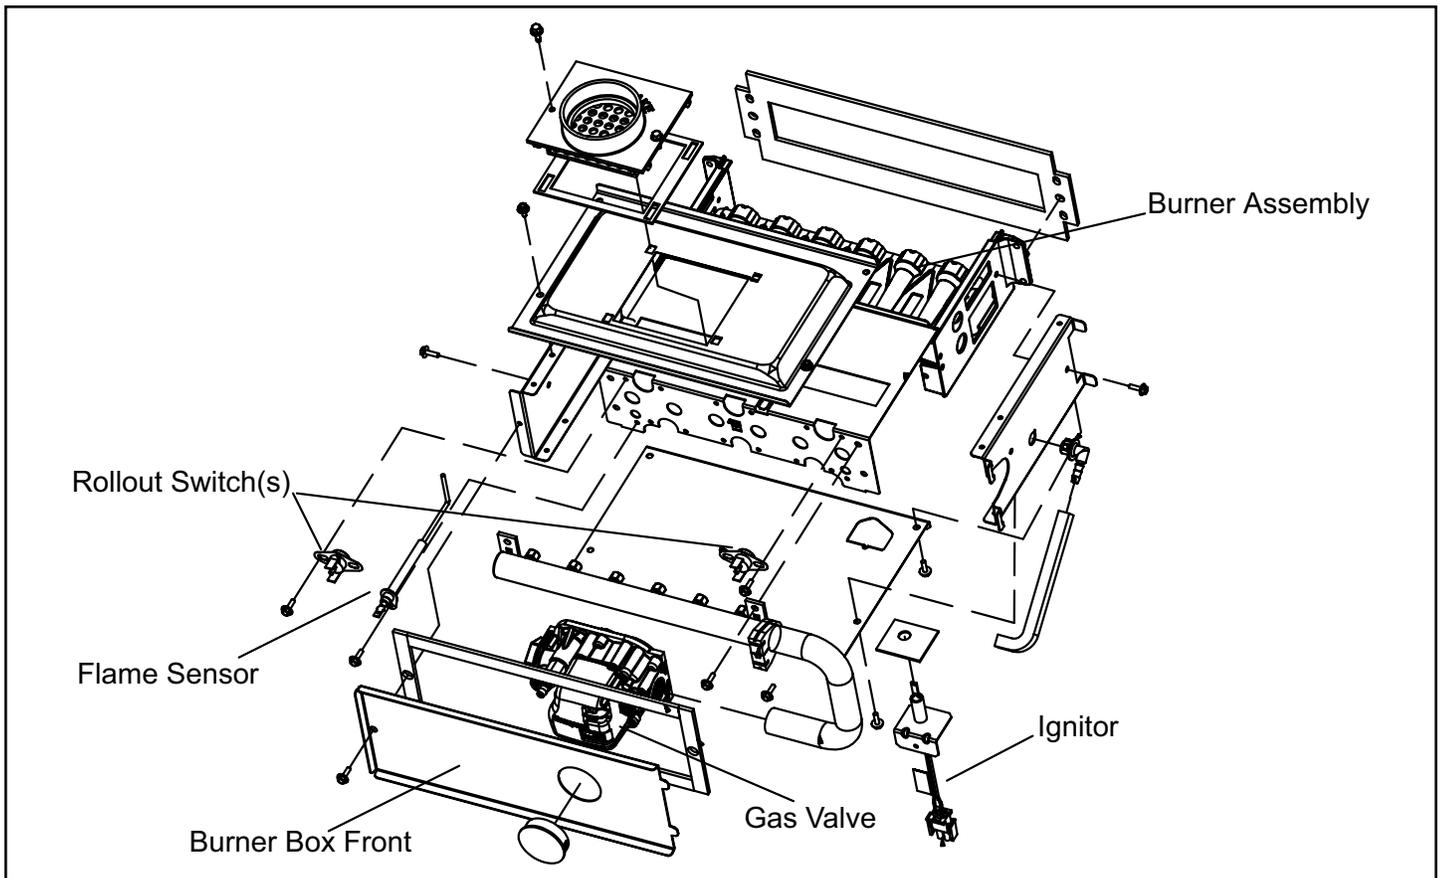

Figure 5. Burner Box Assembly
The hot surface ignition control system consisting of an integrated control (Figure 3 with control terminal designations in Table 1 through Table 3), sensor and ignitor (Figure 5). The integrated control and ignitor work in combination to ensure furnace ignition and ignitor durability. The integrated control, controls all major furnace operations. The integrated control also features a RED LED for troubleshooting and two accessory terminals rated at (1) one amp. See Table 4 or Table 5 for troubleshooting diagnostic codes. The nitride ignitor is made from a non-porous, high strength proprietary ceramic material that provides long life and trouble free maintenance.
Flame Rollout Switches (Figure 5)
Flame Sensor (Figure 5)